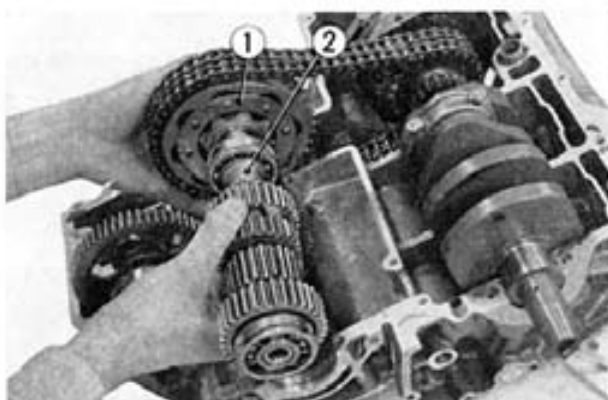

Fig. 5-3 ① Primary sprocket
3. Raise the transmission mainshaft and remove the primary sprocket and then remove the mainshaft gear assembly from the upper crankcase. (Fig. 5-3)